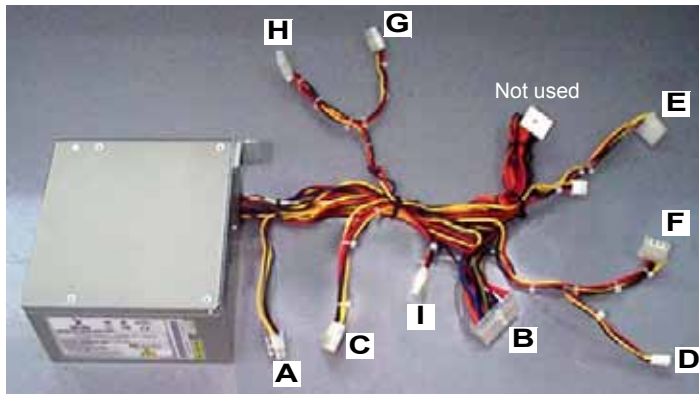

Figure 8-81 Removing the BEP2 Power Supply with Cable Loom and Connectors
NOTE: For clarification, the numbers appearing in square brackets in the following steps correspond to the numbers shown in the illustration of the BEP2 Power Supply and cable connectors in Figure 8-81 below.
- 21.) Remove the power supply from the BEP, together with the attached cable loom, as shown in Figure 8-81 below.